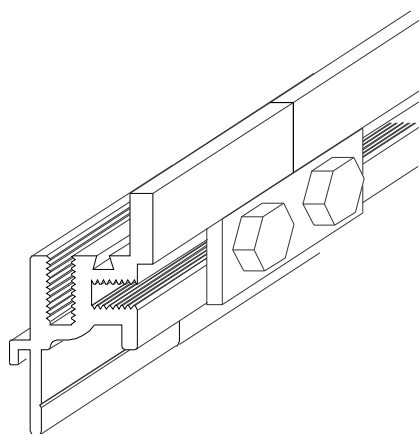

Figure 11
STEP 5. Attach the splice bar to the frame sections using the fasteners (part no. H1412S) provided by the factory (see Figure 11).